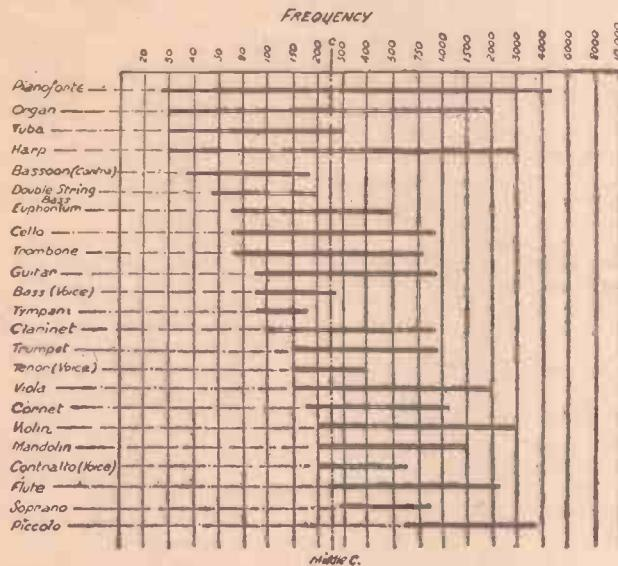

Fig. 1.—The ranges of different musical instruments and voices.
**Z**OOMP! Zoomp! Zoomp! goes the double-string bass. Zing! Zing! goes the cymbal. These are two items which are to be heard in practically any dance band, but which are hardly ever heard on the majority of broadcast receivers. You might say that you can hear the cymbal on your set, or perhaps the string bass, but whilst admitting that this may be true, do you hear them in their correct proportion compared with the remainder of the instruments? Look at Fig. 1. This is a chart which shows the range of frequencies produced by the majority of average musical instruments and voices. It will be seen that it is fairly extensive, but it gives only half the story. We do not wish to give any facts which will bore our readers, but there are certain things which must be explained if you are to understand the problem which is placed before your loudspeaker when you set it the task of reproducing the transmission which is received by your aerial.